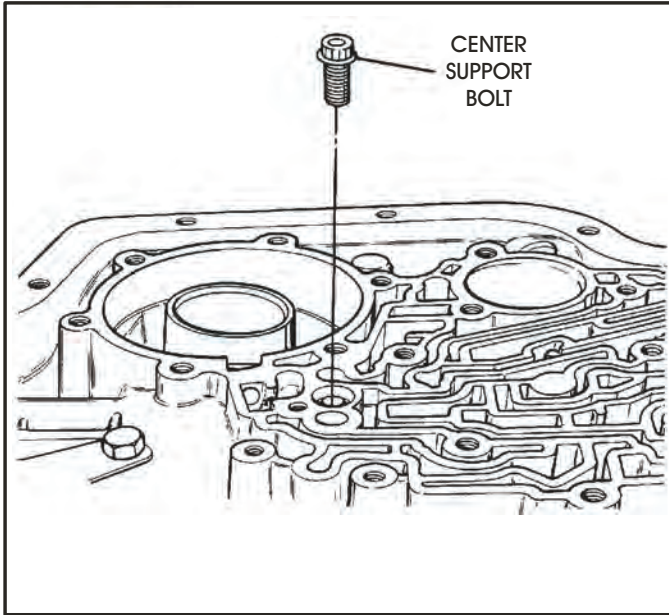

Figure 50
56. Remove the center support feed and retaining bolt using a 12 point socket (See Figure 50).